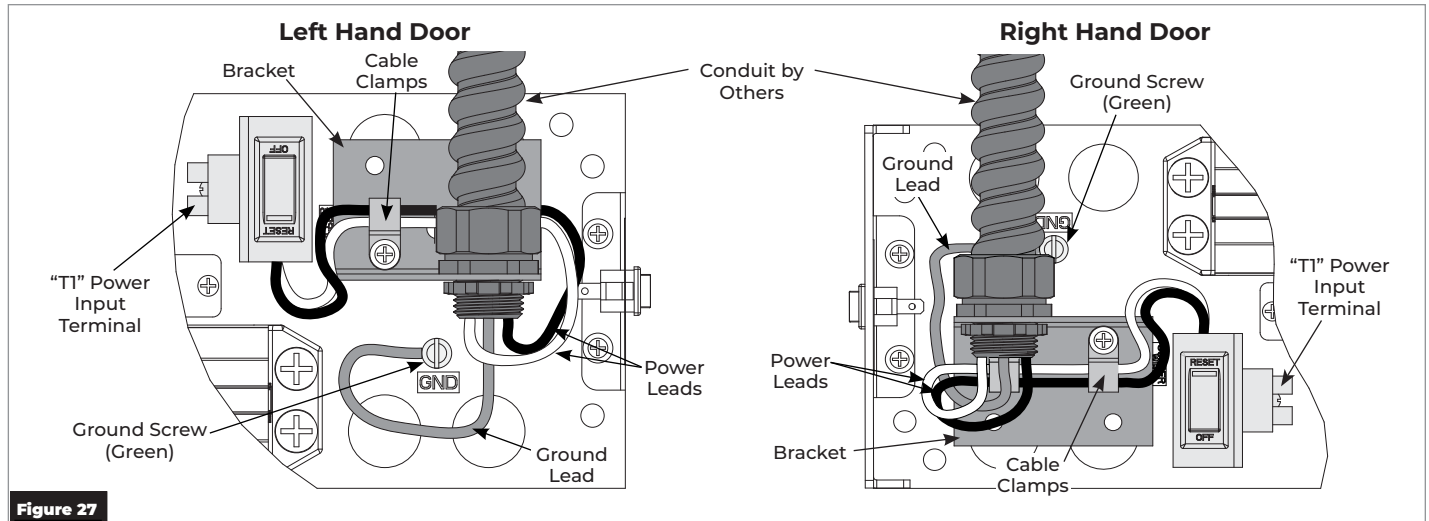

Figure 27
1. Secure conduit and conduit fitting(s) to the bracket as shown. (Figure 27)